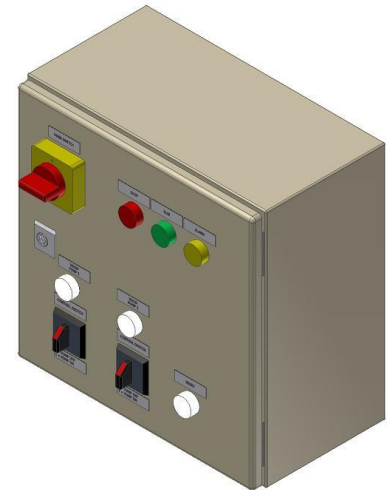

Figure 4.2-7
- Main power switch (red/yellow in Figure 4.2-7) is connected to the motor protection relay. Positions "0" (zero) and "1". The contact breaker controls the main power to the HX-unit, including the HX control unit.
- Pump power switch (black and red in Figure 4.2-7), positions "0" (zero) and "1". The contact breaker controls the power to the HX-unit pumps (PU11 and PU12). The pump can be started by turning the switch to position "1", and stopped by turning it back to position "0". If both switches are in position "1" then the pumps are automatically working in sequence, changing every 168 hours (or acc. to project specific value).
- LS11 leak sensor reset switch (white in Figure 4.2-7) resets the leak alarm. To reset the alarm, the liquid must first be removed from the sensor on the HX-unit leakage plate.